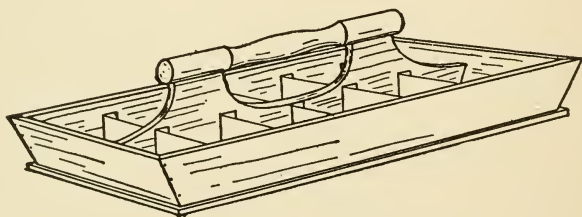

FIG. 18.—Nail-box.
**Nail-box**, with compartments for the different sizes of nails, screws, hooks, screw-eyes, hinges, etc. One of the best kinds of boxes for this purpose is a knife-box such as can be bought for ten or fifteen cents. This is divided in two and has a handle attached (see Fig. 18). The two compartments should be sub-divided into smaller boxes, either with pieces of cigar-boxes, or with pieces of